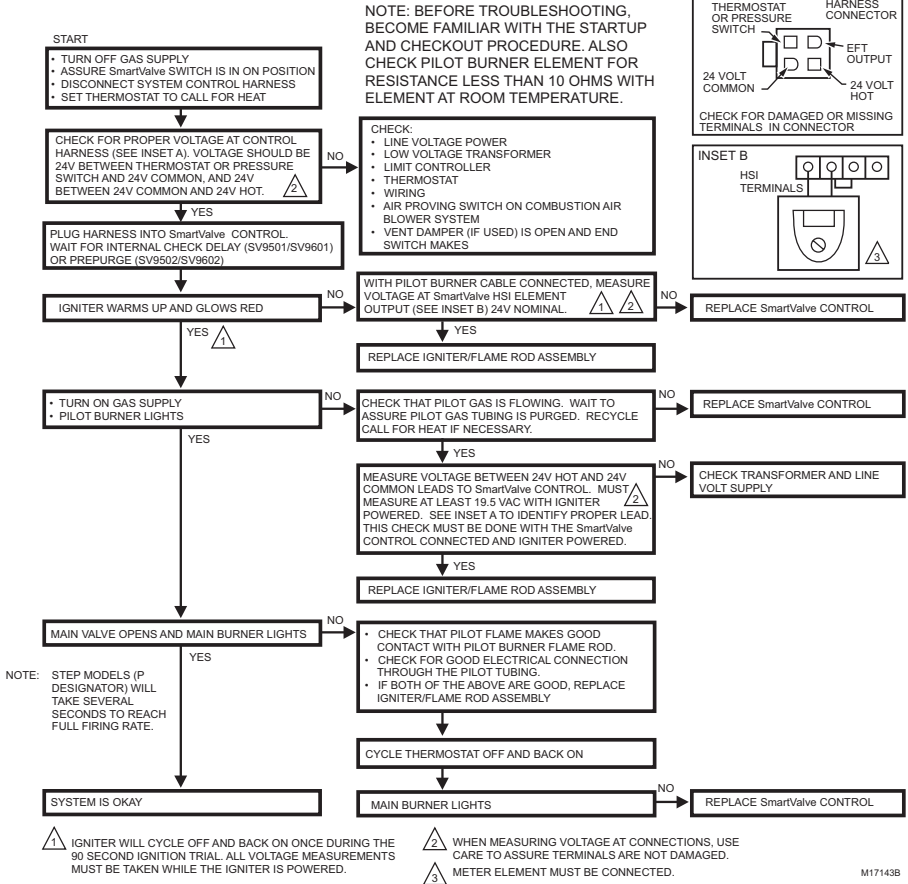

Fig. 16. SV9501/SV9502/SV9601/SV9602 SmartValve™ Troubleshooting Sequence.
9. Follow the Operating Sequence and Troubleshooting flow chart in Fig.14 and Fig. 16 for the replacement SV9501/SV9502/SV9601/SV9602 SmartValve™.